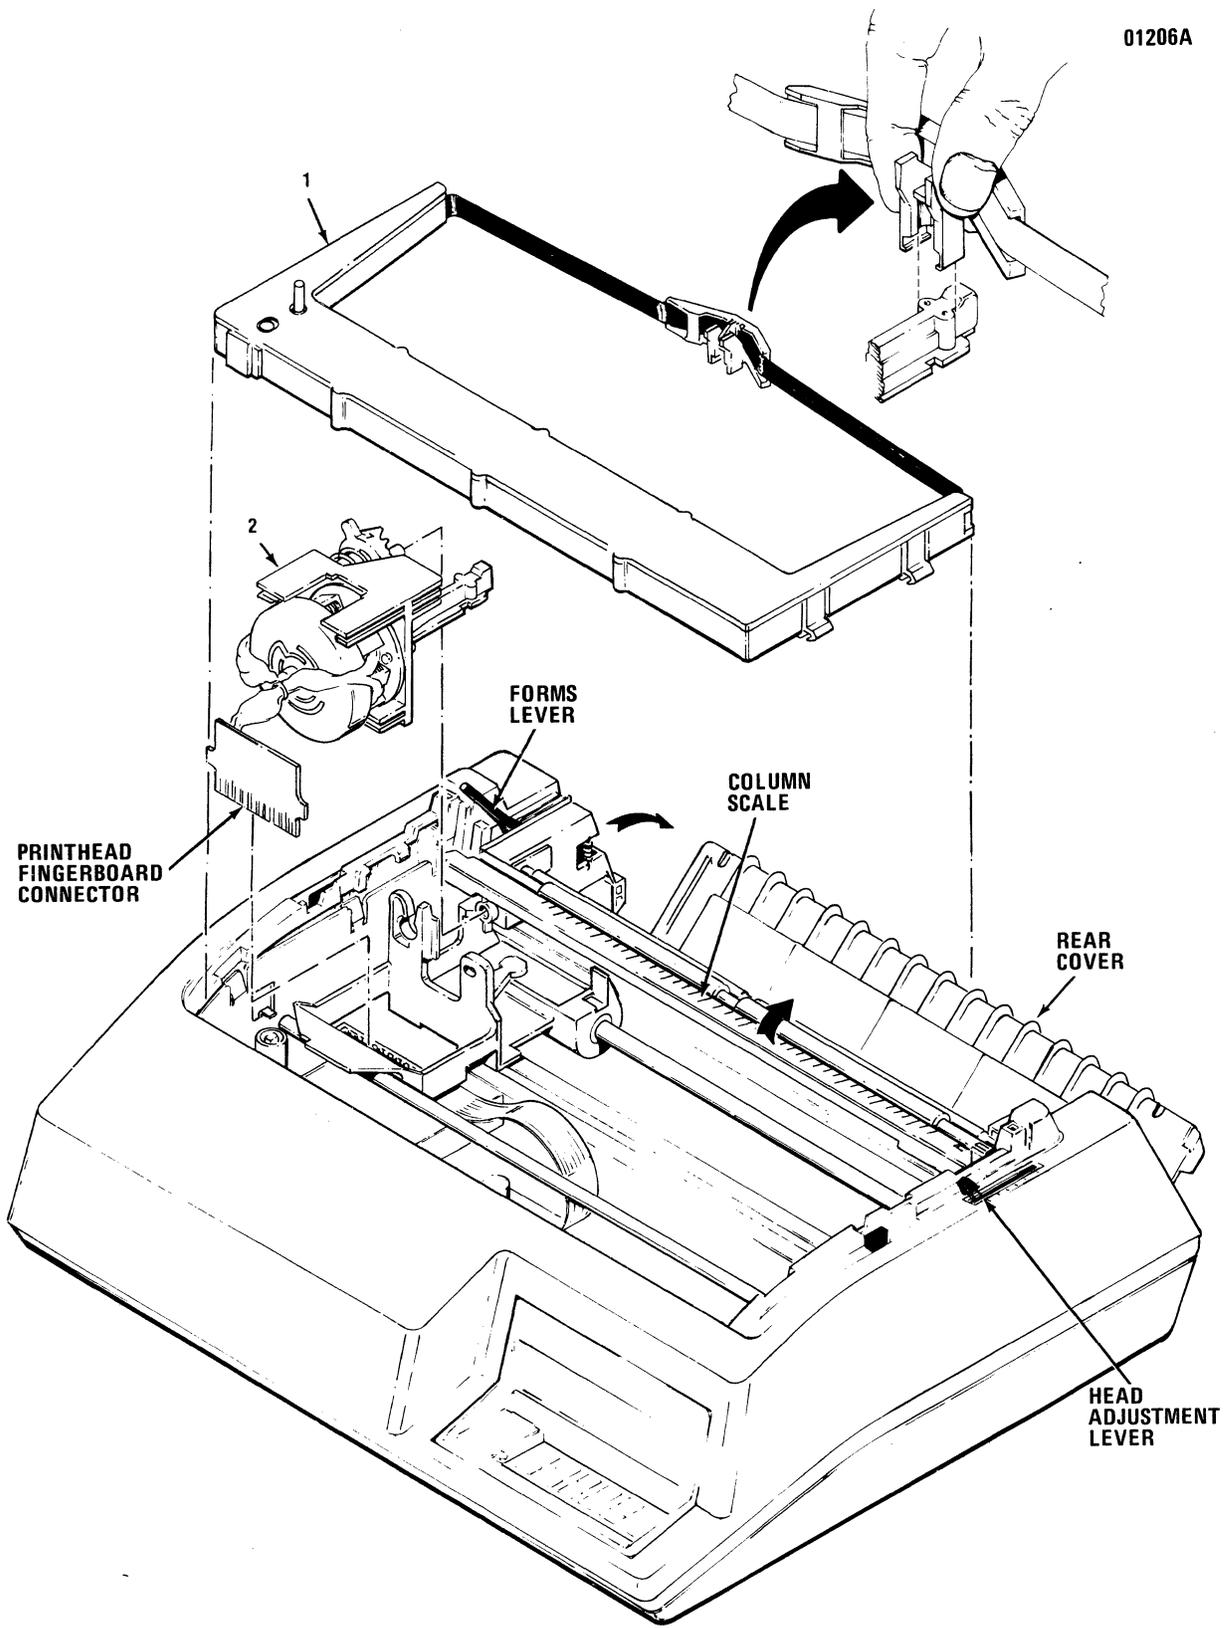

Figure 5-3 Removal/Replacement, Ribbon Cassette and Guide, Print Head Assembly
The ribbon cassette, item 1 of Figure 5-3, is mounted to the left and right side frames. The ribbon guide is mounted over the front of the print head. No tools are required to remove the cassette or guide. To remove the cassette and guide, refer to Figure 5-3 and perform the following steps:
4. Place the forms lever in the "LOAD" position as shown in Figure 5-3.
6. Pull the head adjustment lever to its maximum position, as shown in Figure 5-3.
8. Lift the used ribbon cassette and guide (1) up and out of the printer.
The print head assembly, item 2 in Figure 5-3, attaches to the carriage; no tools are required to remove the print head. To remove the print head, refer to Figure 5-3 and perform the following steps:
4. Place the forms lever in the "LOAD" position, as shown in Figure 5-3, and lift the column scale into the up position.
5. Position the head adjustment lever in the maximum position, as shown in Figure 5-3.
8. To remove the print head (2), simultaneously pull the head toward the front of the printer and lift the head up and out of the printer.
4. Remove the print head fingerboard connector P704 from the head adapter pcb connector J704 by lifting the connector upward (see Figure 5-3).